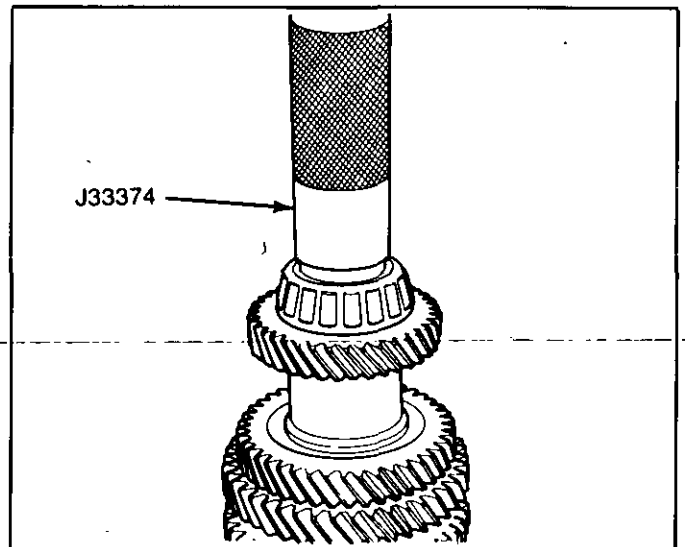

Figure 36 Rear Brg. Output Shaft
4. Apply oil to the 3rd/4th gear interior, match the key with the key groove and fit the key together with the rear bearing. Using J-33374 and a press, press bearing on shaft (Figure 36).